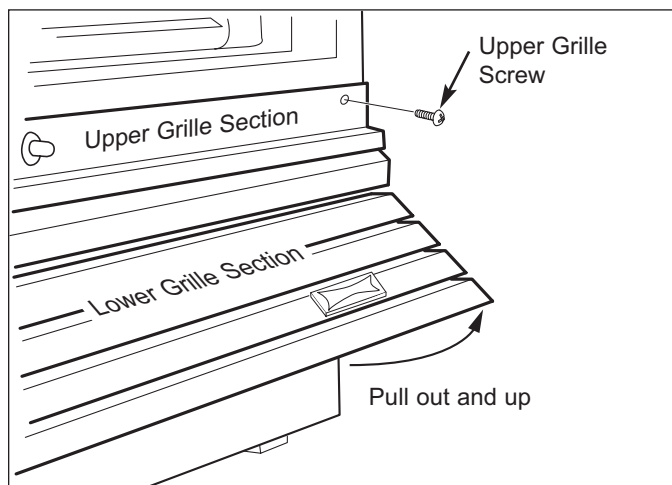

Figure 7-2. Stainless Steel Grille
**Lower Grill Section Removal** - To remove lower grille section (See Figure 7-2):
**Upper Grill Section Removal** - To remove upper grille section (See Figure 7-2):